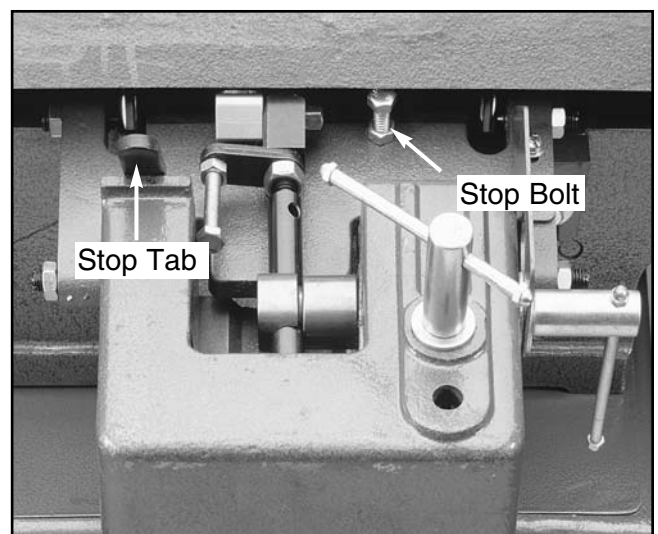

Figure 22. Location of stop bolt and stop tab.
1. Loosen checknut and lower fence until it rests on the stop bolt. **See Figure 22.**